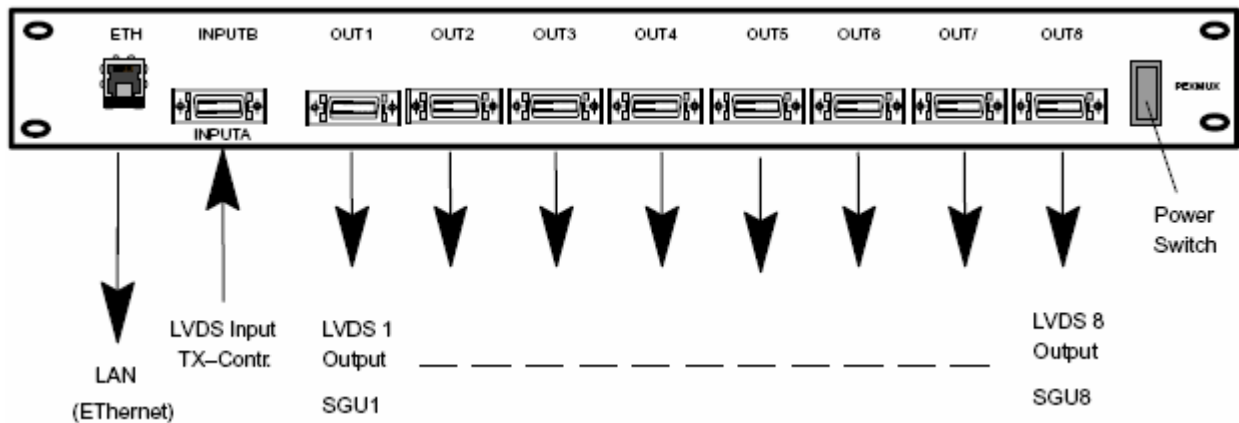

Figure 6.1 External Connections for the PEXMUX8 Unit
- Switching on the unit using the power switch (see Figure 6.1 for location of the switch).